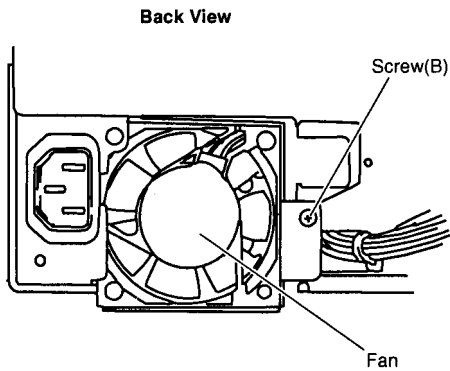

Fig. 4-29
- 3) Remove screw (B), as shown in Fig. 4-29.